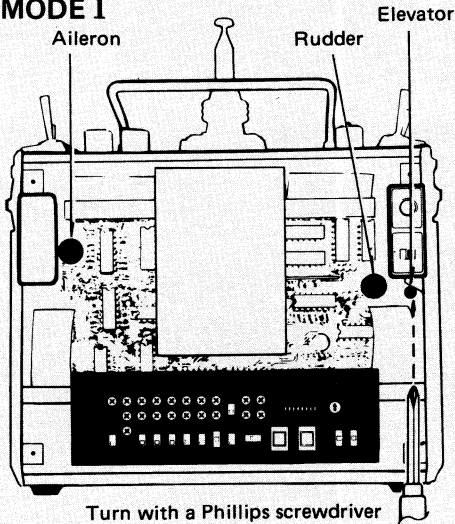

Fig. 16-A
The open gimbal slantable stick mechanism allows adjustment of the stick lever to any angle between 3° to the inside and 4.5° to the outside by turning the adjusting screw as shown in Fig. 16. Set the lever to the angle at which it is easiest to use.
The desired spring force can be obtained by removing the rear cover and turning the screw of the desired stick as shown in Fig. 16-A. Adjust the spring force for easiest operation and best feel.
- ① Remove the three screws shown and remove the transmitter righthand side panel as shown in Fig. 16-B.
- ② Displace the side panel away from the case. (slide down-off)
- ③ Disconnect the power connector.
- ④ Adjust the spring tension.
- ⑤ Cautions